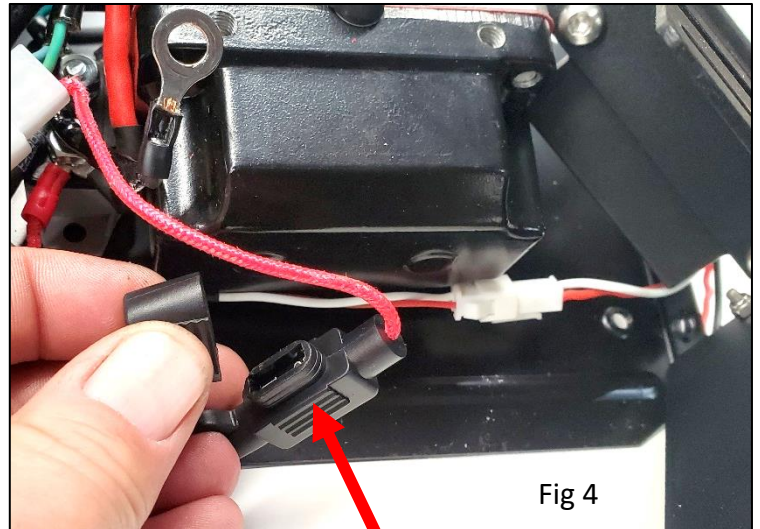

Fig 4
**Step 3:** Open fuse holder and replace with 3 amp mini blade style fuse. Reverse steps to re-assemble control box. Fig 4.